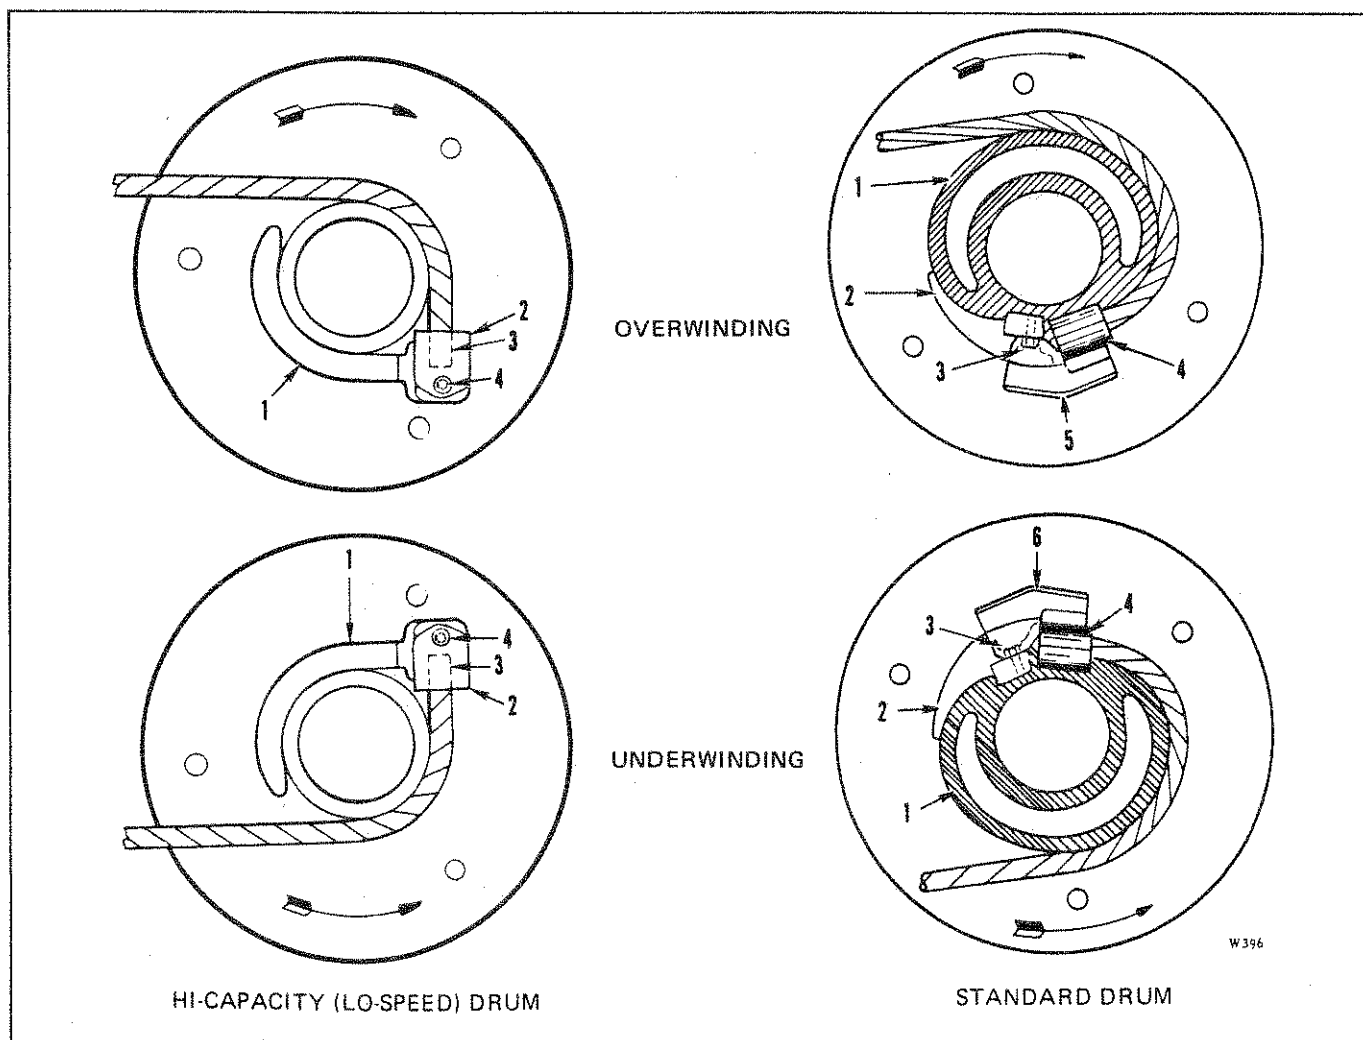

FIGURE 4-9. WINCH DRUM OVERWIND AND UNDERWIND ARRANGEMENT
4-18. Drum Assembly Arrangement. (See Figure 4-9.) The cable on the drum must be anchored and wound in the opposite direction for overwind operation. To setup the drum for overwind operation, follow procedure a for Hi-Capacity (Lo-Speed) drum and procedure b for standard drum:
b. Automatic Brake (Optional). (See Figure 4-9.) Interchange position of brake band pins **A** and **B** per procedure a above. Remove the automatic brake assembly and reinstall so that the word UNDERWINDING IS facing to the outside.